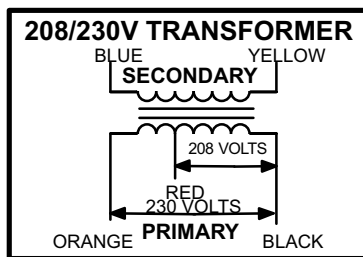

FIGURE 3
208/230 (Y) voltage transformers have two primary voltage taps, but only one may be used depending on supply voltage. See figure 3. 460 (G) and 575 (J) voltage transformers use a single primary voltage tap.